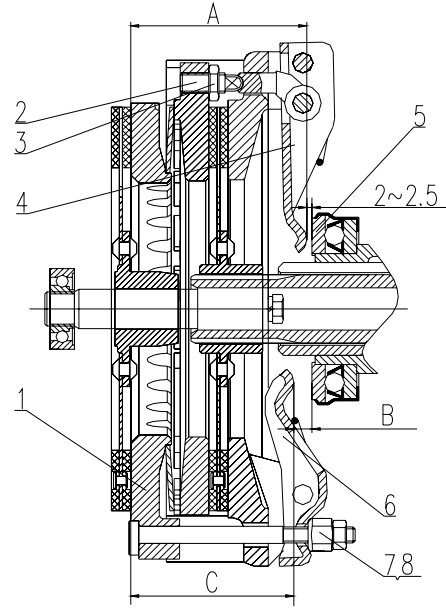

Figure 4-3 Double-action clutch
(1) The adjustment method of the clutch pedal free stroke is as follows:
First loosen the locknut (3) on the adjusting nut (2) (as seen in Figure 4-3), then turn the adjusting nut (2) for the adjustment, making the distance between the working face of the three main clutch release lever (4) and the working face of the clutch pressure plate (1)  $A=86.5+0.2\text{mm}$  for 25-28hp models;  $A=101.5+0.2\text{mm}$  for 30-32hp models; and finally lock the locknut (3). Loosen the nut (7 and 8), turn the adjusting nut (8) to make the distance between the working face of the auxiliary clutch release lever (6) and the working face of the clutch pressure plate (1)  $C=78.5+0.2\text{mm}$  for 25-28hp models;  $C=93+0.2\text{mm}$  for 30-32hp models; and screw down the nut (8). Adjust the clutch push rod control fork 4 (as seen in Figure 4-2) to guarantee the free stroke of the clutch pedal is (25-30)mm and lock the screw nut (5) after the adjustment (see Figure 4-2).
(2) The adjustment method of the clutch pedal working storke is as follows:
- (6). When dismantling the clutch, replace the release bearing (5) (Figure 4-3). Replace through-out bearing.